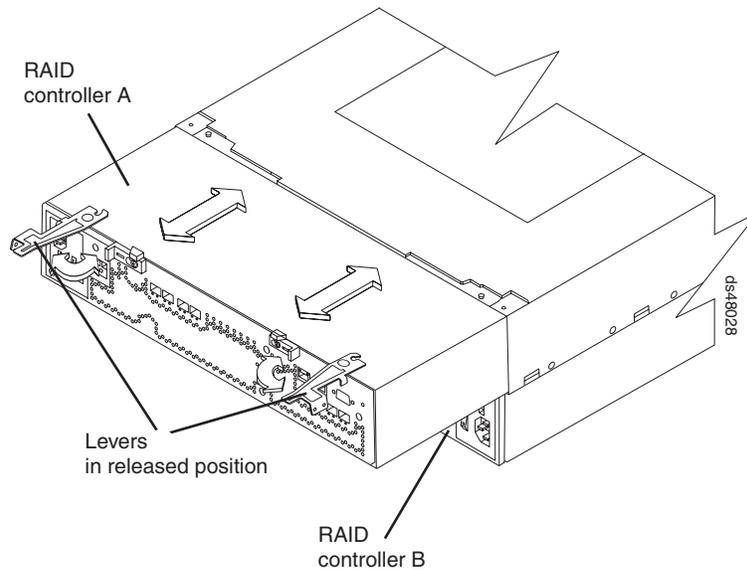

Figure 19. Removing the controllers
5. At the back of the DS4800 Storage Subsystem, use an adhesive note to label each of the controllers. Controller A is in the upper slot; controller B is in the lower slot. Figure 19 on page 36 shows the locations of the controllers and controller levers.
6. Remove the controllers. Figure 19 shows the controller locations and the controller levers.